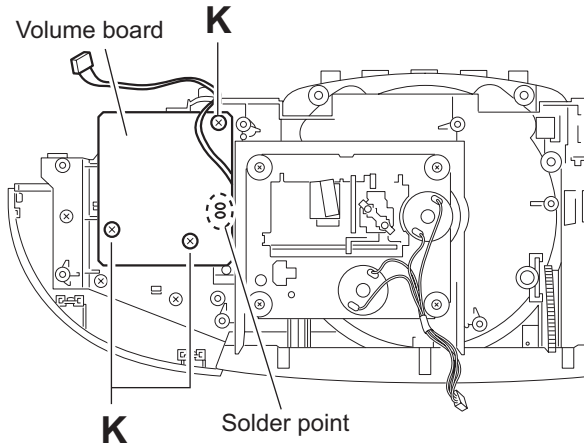

Fig.13
3.1.6 Removing the volume board and the power switch board (See Fig.13 to 16)